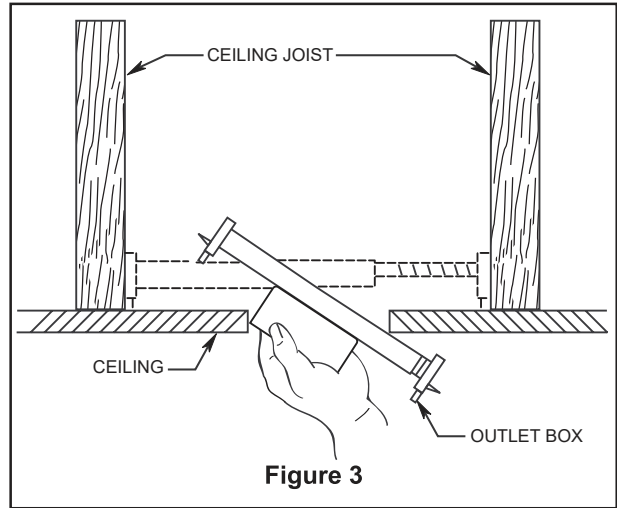
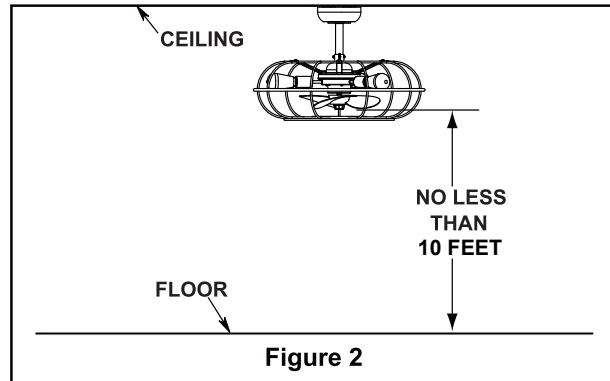

Figure 3
Figure 2
Your new ceiling fan will require a grounded electrical supply line of 120 volts AC, 60 HZ, 15 Amp Circuit. Electrical code requires use of a fan-rated outlet box to support the extra weight and motion associated with a ceiling fan. A fan-rated box will be labeled as such and typically supports up to a 70lbs ceiling fan. Fan-Rated Outlet Boxes vary in ratings and design. Ensure the ratings of your ceiling fan outlet box meet the requirements for the ceiling fan being installed. Figure 1, Figure 2 and Figure 3 depicts different structural configurations that may be used for mounting the outlet box.
## Deep-profile use (Figure 2)
## Brace use (Figure 3)
- Remove the hairpin clip and clevis pin from the bottom of the downrod. Retain the pin and clip for reinstallation in Step 4. (Figure 2)
The fan must be hung with at least 10' of clearance from floor to ceiling fan. (Figure 2)
To avoid possible electrical shock, be sure electricity is turned off at the main fuse box before wiring. (Figure 2)
- Align the two oval shape open slots on the bottom of the canopy screw cover with the two shoulder screw heads on the canopy. Push up the canopy screw cover until the screw heads engage the slots and rotate the screw cover clockwise until it is attached to the bottom of the canopy properly. (Figure 2)
- ❑ Restore electrical power to the outlet box by turning the electricity on at the main fuse box. (Figure 2)